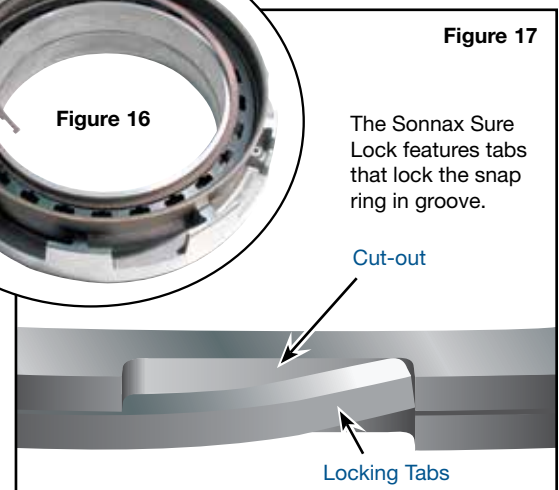

Figure 17
- After Sonnax snap ring is fully installed, ensure the locking tabs are engaged with the cutouts in retaining ring as shown. It may be necessary to bend the locking tabs up to get a secure lock (Figure 17). Do NOT bend the cut-out portions.